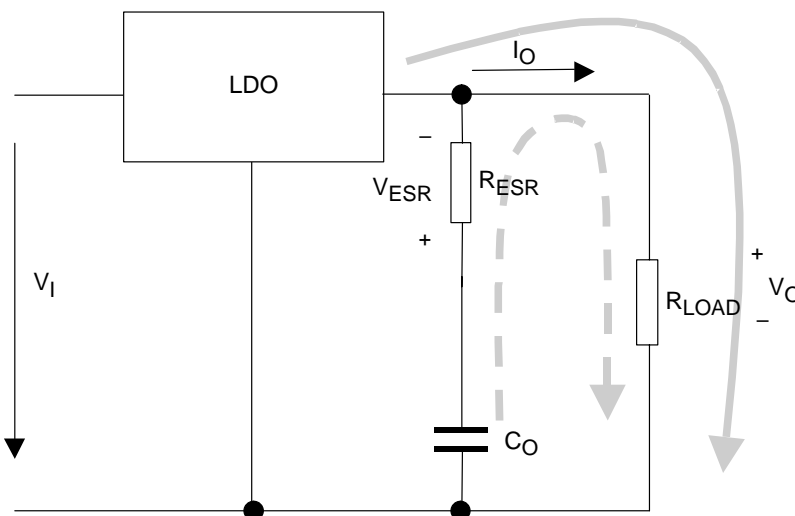
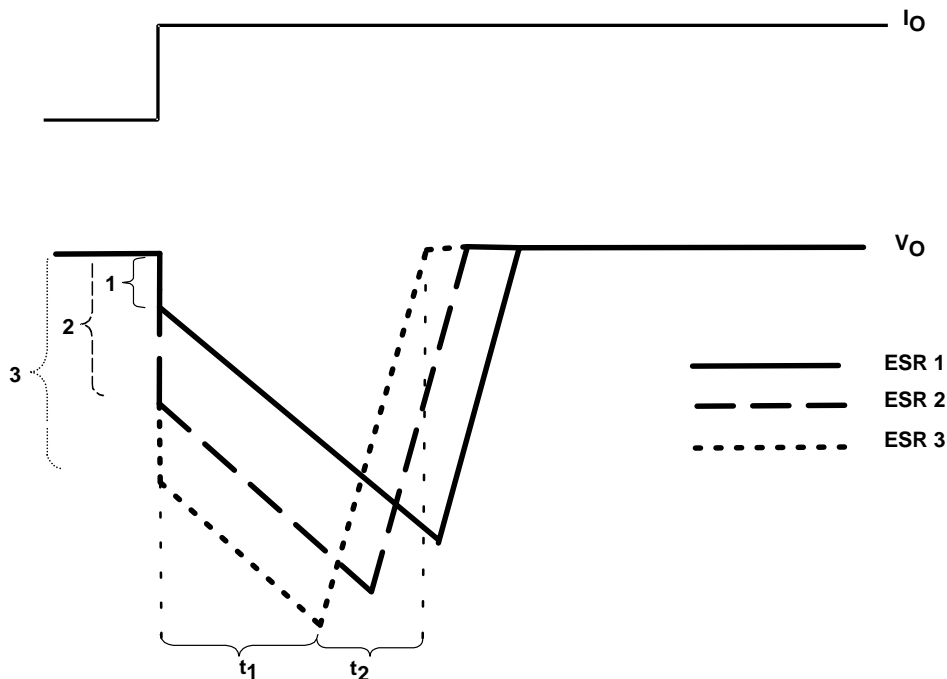

Figure 44. – LDO Output Stage With Parasitic Resistances ESR
Figure 45. – Correlation of Different ESRs and Their Influence to the Regulation of V_O at a Load Step From Low-to-High Output Current
Figure 44 shows the output capacitor and its parasitic impedances in a typical LDO output stage.
- The LDO is not able to supply the sudden current need due to its response time (t_1 in Figure 45). Therefore, capacitor C_O provides the current for the new load condition (dashed arrow). C_O now acts like a battery with an internal resistance, ESR. Depending on the current demand at the output, a voltage drop occurs at R_{ESR} . This voltage is shown as V_{ESR} in Figure 44.
- When C_O is conducting current to the load, initial voltage at the load will be $V_O = V(C_O) - V_{ESR}$. Due to the discharge of C_O , the output voltage V_O drops continuously until the response time t_1 of the LDO is reached and the LDO resumes supplying the load. From this point, the output voltage starts rising again until it reaches the regulated voltage. This period is shown as t_2 in Figure 45.